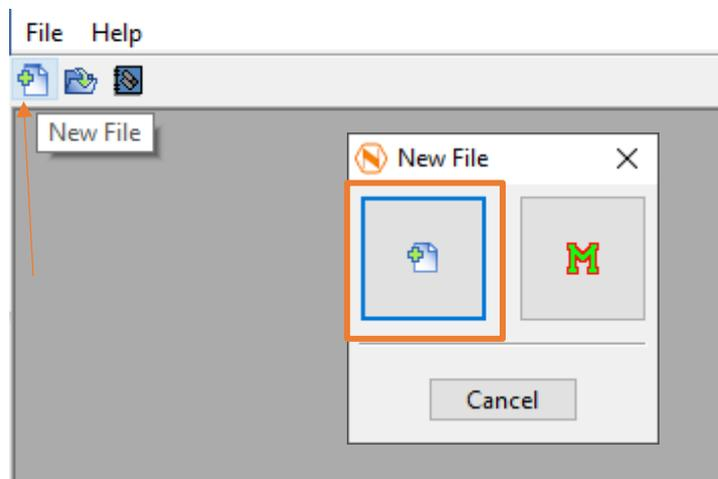

Figure 407
- Open NestKing and click  (New File) on the top (Figure 407).